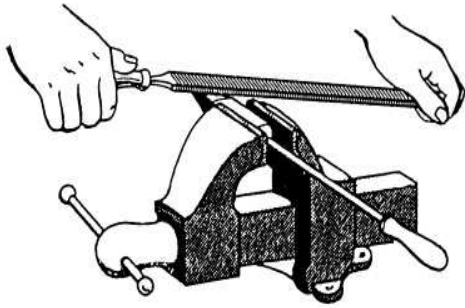

Figure 2 - Filing a soldering copper.
2. Clamp the copper in a vise, as shown in figure 2.